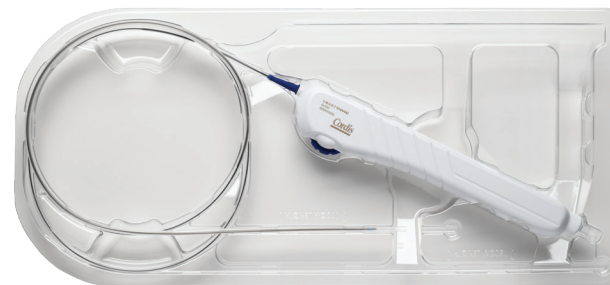

Figure 6
- C. After careful inspection of the pouch to look for damage to the sterile barrier, carefully peel open the pouch and extract the stent delivery system from the tray. Examine the device for any damage. If it is suspected that the sterility or performance of the device has been compromised, the device should not be used. (Figure 6)